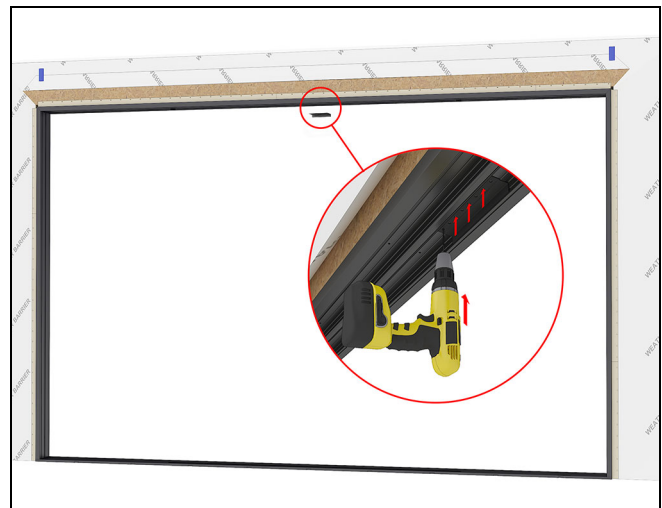
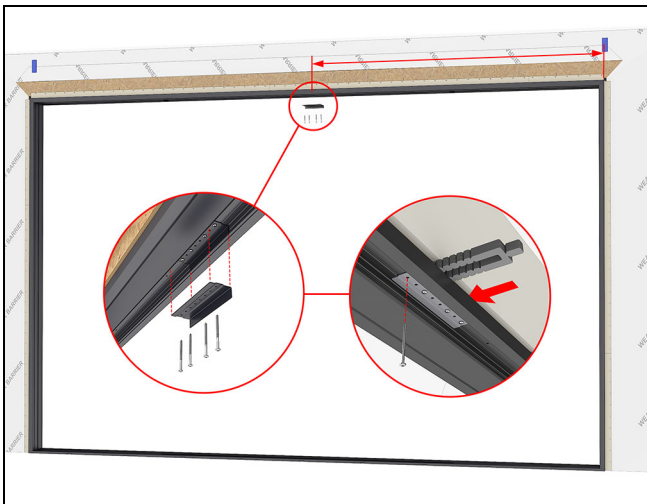

Figure 158 XOOX
Figure 159 XOOX
2. Using the bracket as a template, pre-drill a 3/16" hole at each outside hole and at least once more in the middle. See Figure 158 and Figure 159.
3. Fasten through the bracket into the head jamb with #10 x 3" installation screws at each pre-drilled location. Shim above the head jamb at the bracket as needed. Be careful not to bow the headjamb. See Figure 159